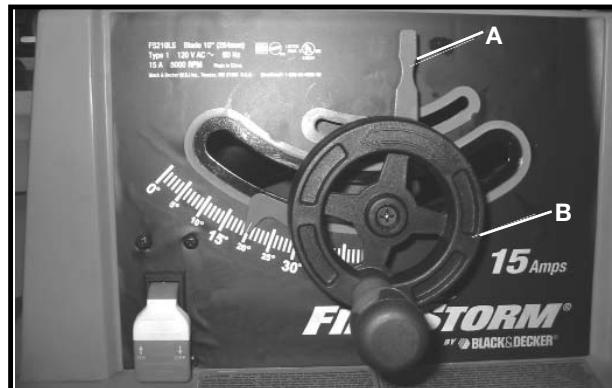

Fig. 37
To tilt the saw blade, loosen blade tilting lock handle (A) Fig. 37, move handwheel (B) until the blade is at the desired angle and tighten lock handle (A). **NOTE:** The lock handle (A) is spring-loaded and can be repositioned by pulling out on the handle (A) and repositioning it on the serrated stud located underneath the handle.